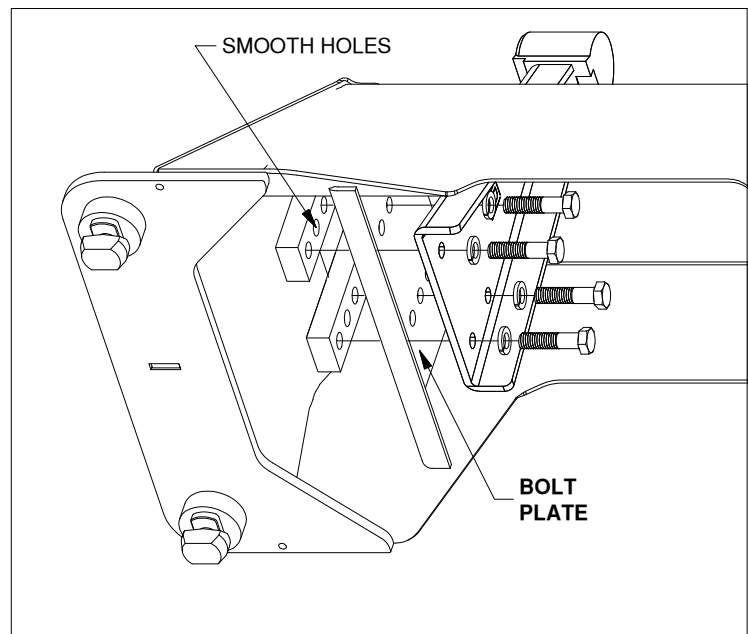

Figure A3: Passenger pivot arm mounting location.
- Secure arms.** Locate both pivot arms, the four threaded blocks, eight 1/2" cap screws, and eight 1/2" lock washers. Place the lock washers over the cap screws. Align the flat side of the pivot arm flat against the bolt plate and install four 1/2" cap screws through the holes on the arm, holding the arm in place, as shown in Figure A3. Locate the threaded blocks. Note that the sides of the block have threaded holes on one side and smooth bored holes on the other side. When installing the threaded blocks, it is critical that the side with the smooth holes is flat against the bolt plate when installed. It is also critical that each of the five holes in the threaded block match up with the five vertical holes in the bolt plate. Pass the threaded block under the base's side, align the block with each set of screws, and start each screw, as shown in Figure A3. After all the screws are started through the arms, torque each bolt to 110 ft-lbs.